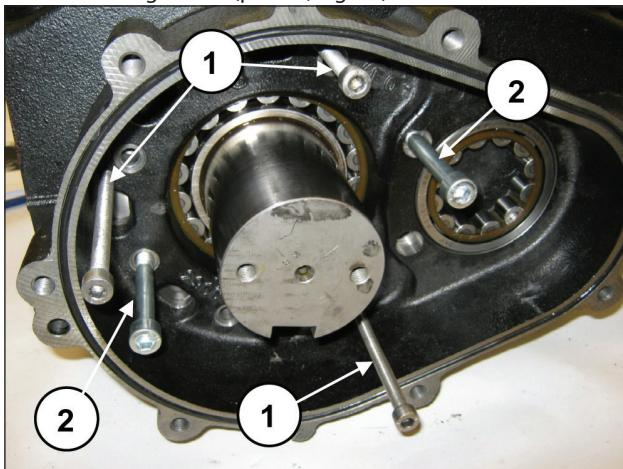

Fig. 23
Position the 3 grub screws or M8 threaded screws (pos. ①, Fig. 23) with the function of extractors in the holes and two sufficiently long M10 screws with the function of supporting the reduction gearbox (pos. ②, Fig. 23).